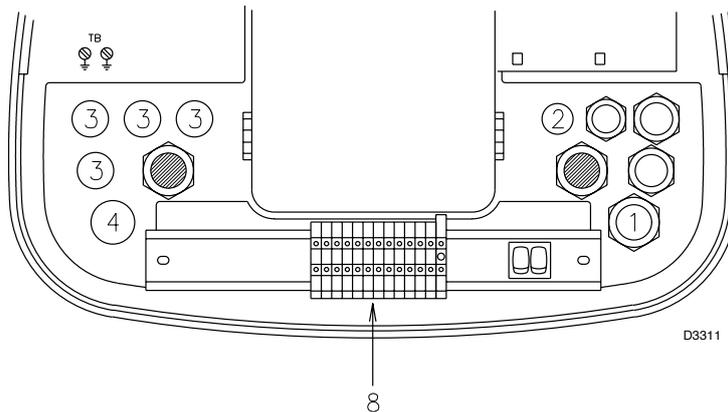

Fig. 20
- All the wires to connect to the burner terminal strip 8)(Fig. 20) must enter through the supplied fairleads.